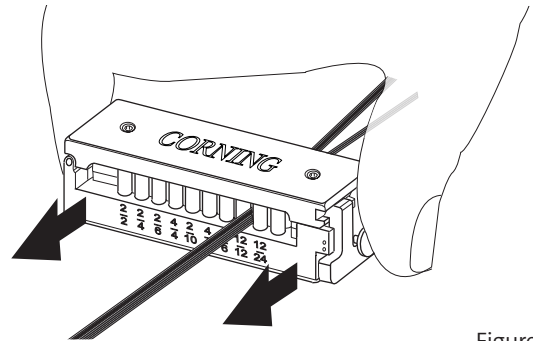

Figure 6
Step 3: Push in and hold the slider button on the end of the tool and pull the ribbon so that the last 2 inches are split using the tool (Figure 6).